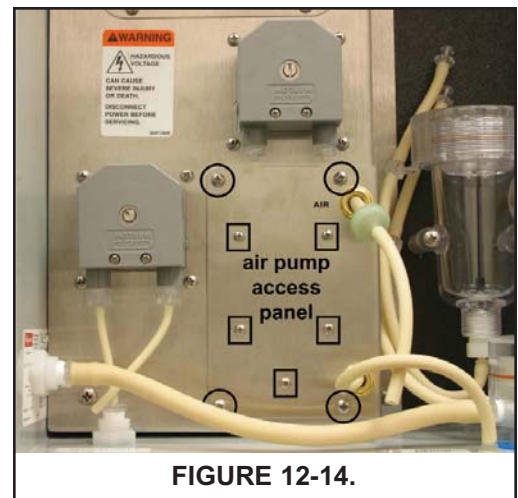

FIGURE 12-14.
3. Remove the four screws (circled in Figure 12-14) holding the air pump access panel. Pull out the pump and panel.
5. Remove the five screws (surrounded by squares in Figure 12-14) holding the air pump to the access panel.